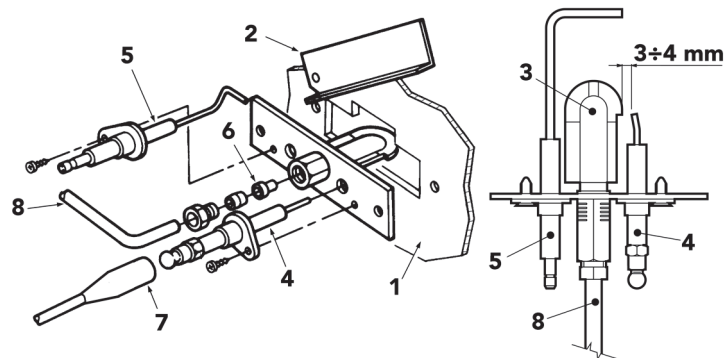

fig. 23 - Pilot burner
- The electrodes must be free of scale and properly positioned (see fig. 23).